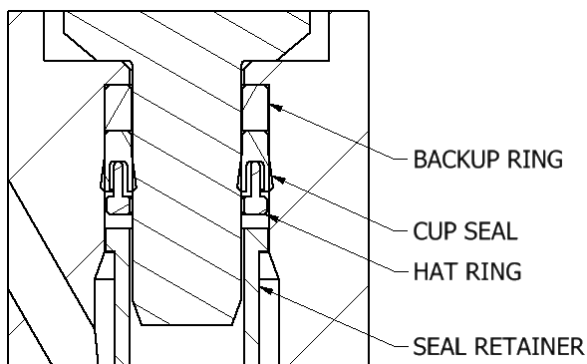

Figure 18 – HPS Seal Arrangement
- 11.12 Place the new HPS cup seal assembly (71007036) over a brass rod to ensure the correct arrangement and drop into the body. See Figure 18 for orientation details.